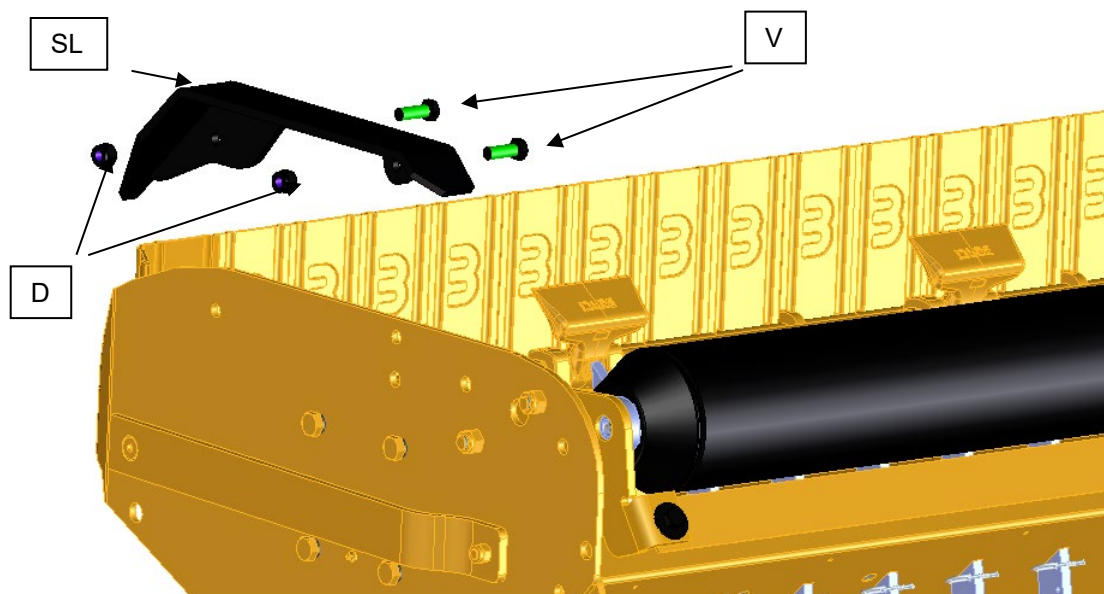

Figure 42
2. Unscrew the nuts D and remove the screws V as shown in figure 42;